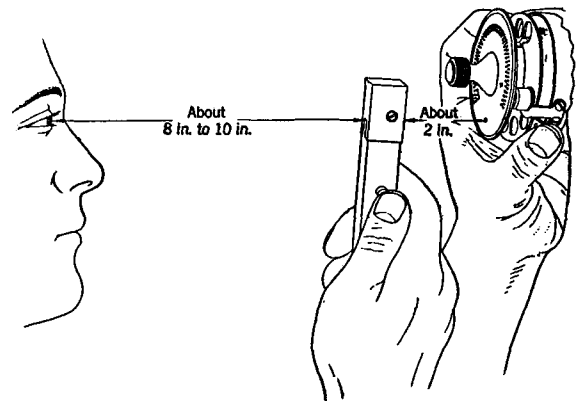

Fig. 2
- 3.05 Slide cover of No. 11A Tuning Fork to expose reeds and hold fork temporarily in the palm of one hand with cover projecting beyond the hand and with push button convenient to thumb. Hold dial in the left hand and wind dial by means of target to the stop position with the right hand. When fully wound keep dial from running down by placing a finger of the left hand against the edge of finger wheel. Hold tuning fork over target with one hand steadying the other as shown in Fig. 2.